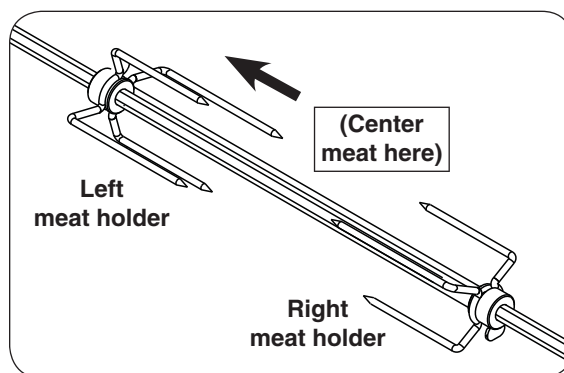

Fig. 17-4 Install meat holders
3. Slide left meat holder into position on rotisserie rod as shown in Fig. 17-4 and tighten screw.
4. Slide meat onto rod and into holder (Figs. 17-4).
5. Slide right meat holder onto rod and into meat (Fig. 17-4). Tighten thumb screw.